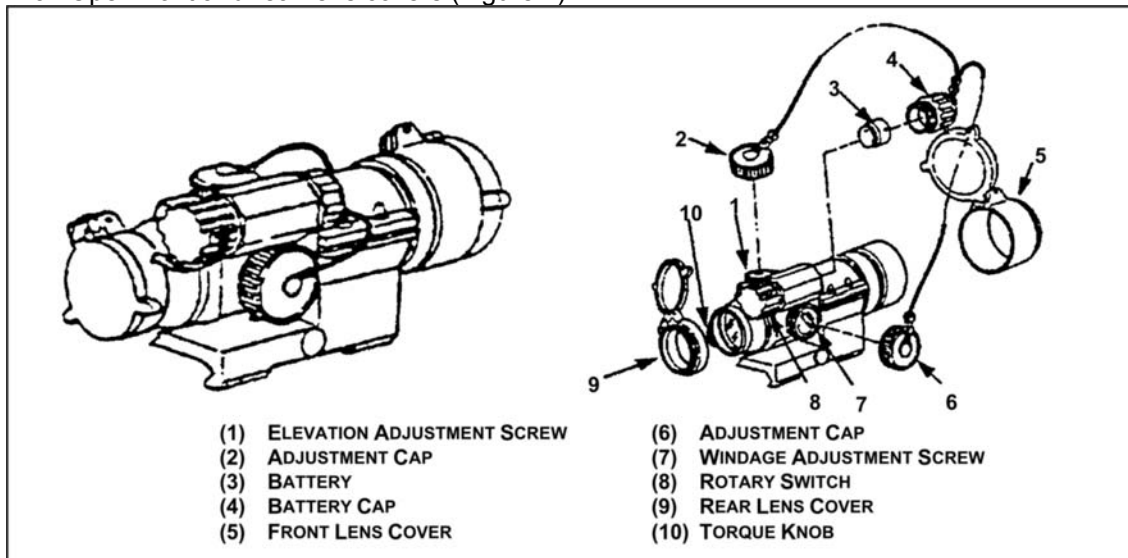

Figure 1. M68, close combat optic.
- a. Open front and rear lens covers (Figure 1).
- d. If adjustment is required, remove adjustment screw caps from adjustment screws by turning them counterclockwise (Figure 1).